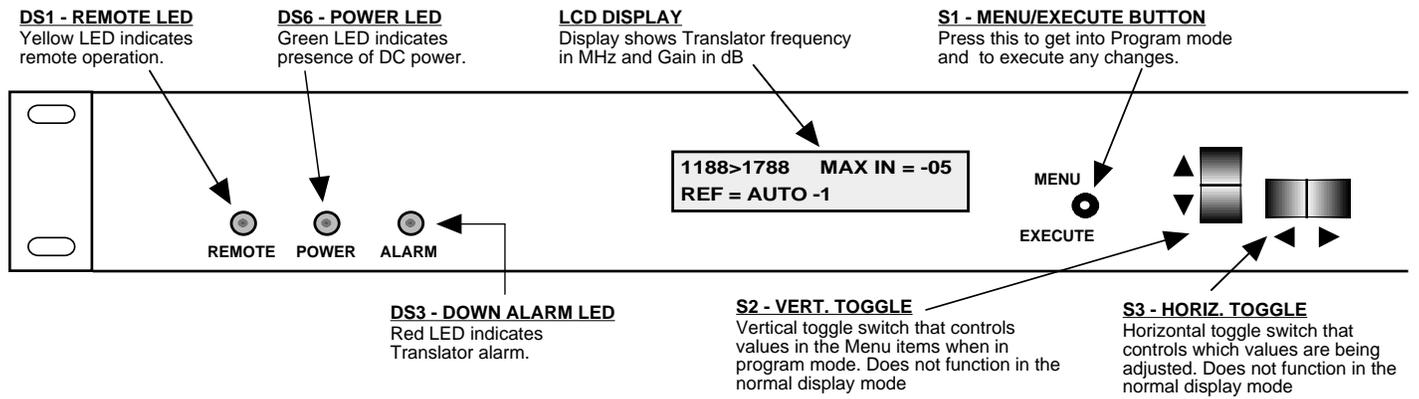

FIGURE 2.3 2083-0914 Front Panel Controls and Indicators
6. Be sure DS6 (green, DC Power) is on and DS (red, Alarm) is off (Figure 2.3).
Alarm indications appear on the LEDs (See figure 2.3).